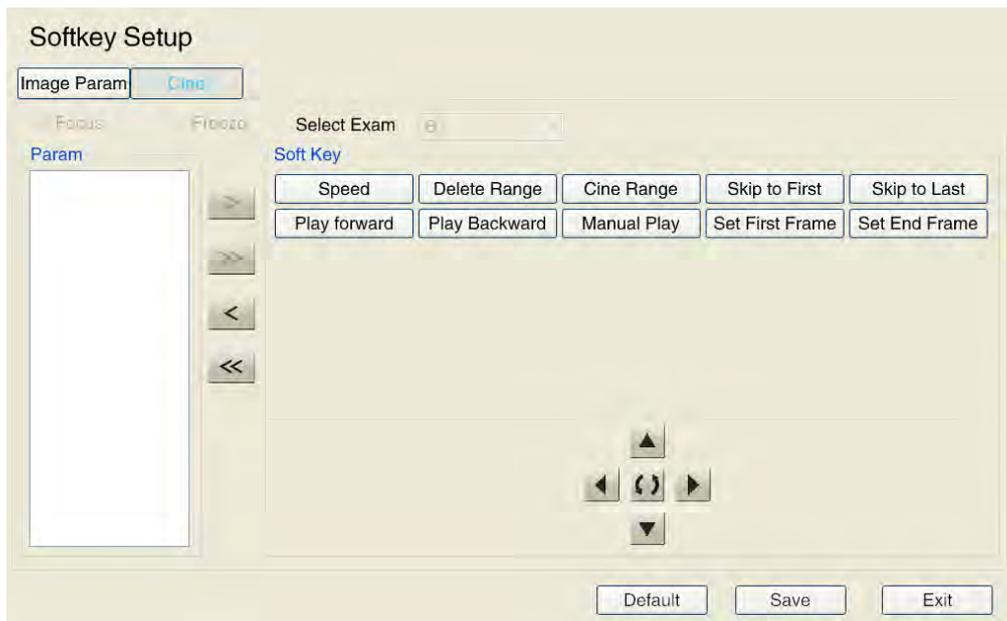

Fig. 5-36 Softkey setup screen (film)
- b) Setting up the softkeys that are displayed in the film state. Here you can find the steps for setup: Use the trackball and the **Set** key to click on **Film** in the upper left corner of the screen for the softkey setup. See Fig. 5-36.